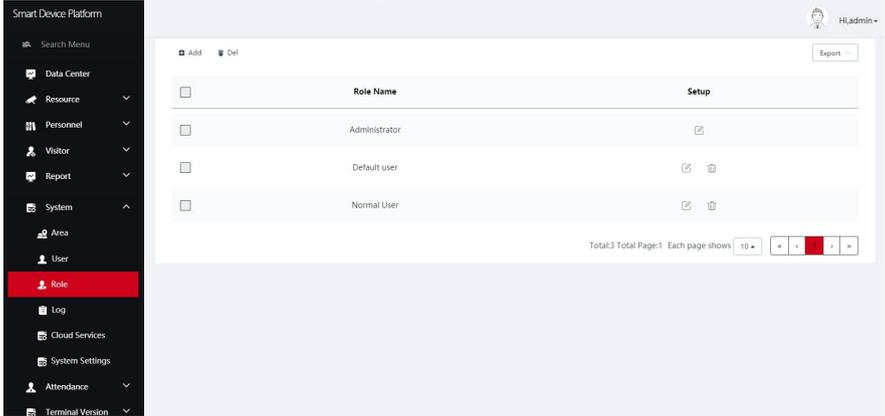

Figure 5-77
Step 1: In the smart device platform interface, click "System→Role" to enter the user management interface, as shown in Figure 5-77 below.